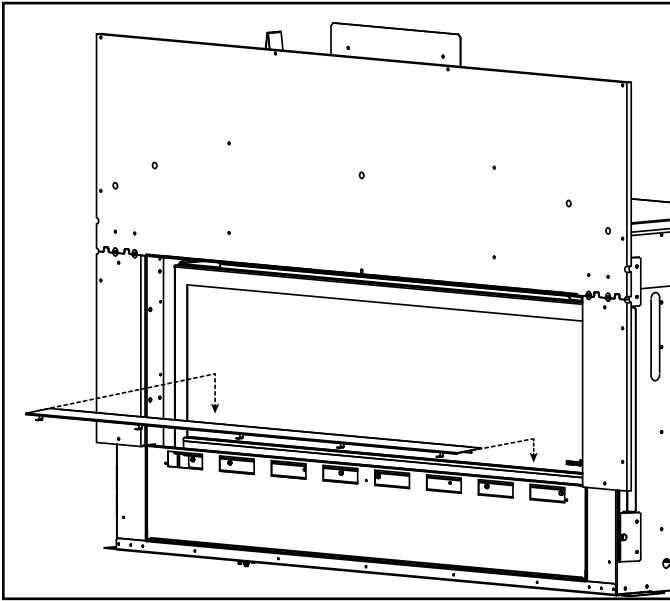

Figure 10. Install Bottom Glass Shield - MEZZO/CRAVE
9. Install bottom glass shield between glass and glass frame. See Figure 10.